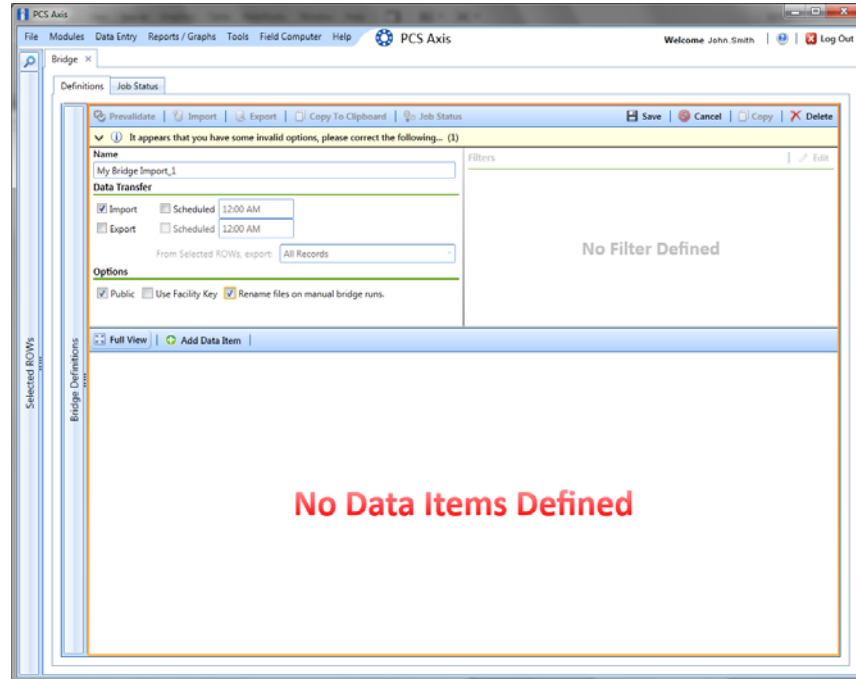

Figure 9-6. Bridge Import Definition
- 4 Type a unique name for the definition in the **Name** field (Figure 9-6, page 393).
- 5 To set properties in the *Data Transfer* group box, follow these steps (Figure 9-6, page 393):
- 6 To set properties in the *Options* group box, follow these steps (Figure 9-6):